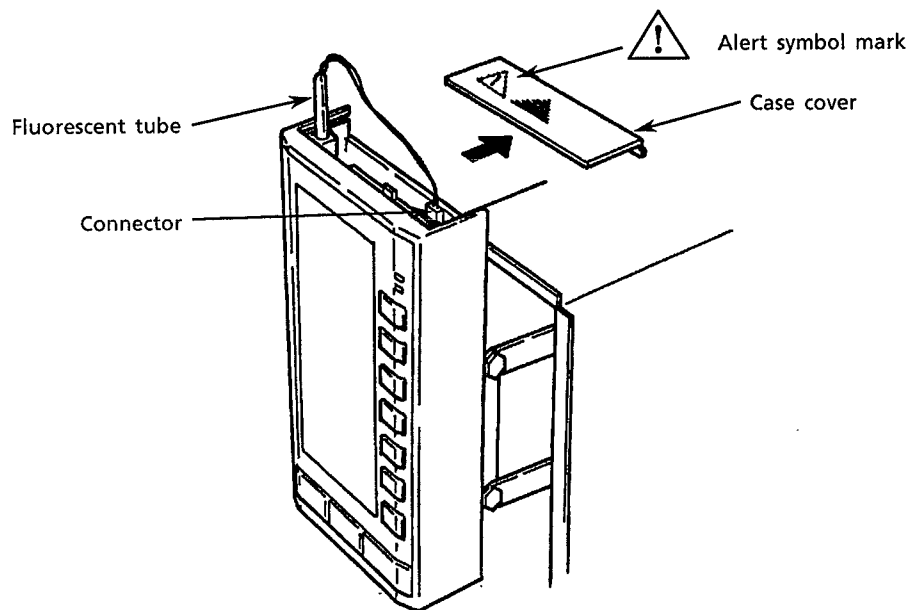

Figure 11.4 Replacing the Fluorescent Tube
(1) How to Detach
- ① Swing up the front panel.
- ② Detach the case cover at the top of the front panel.
- ③ Disconnect the connector of the fluorescent tube, and pull up the fluorescent tube (see Figure 11.4).
(2) How to Attach
- ① Attach a new fluorescent tube by performing the reverse of the steps for (1) "How to Detach" above.